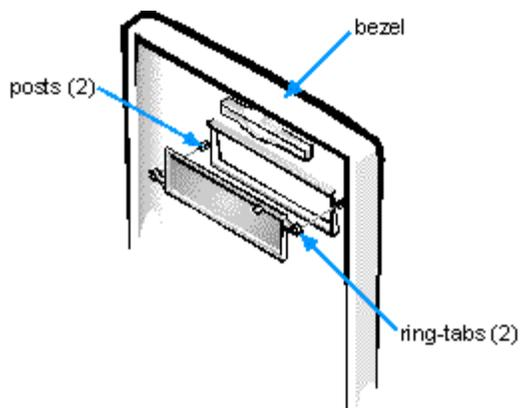

Figure 10-3. Removing the Front-Panel Insert for a 5.25-Inch Bay
4. With your thumbs, press in on each end of the insert until the insert snaps free of the bezel (see Figure 10-3).
To replace a front-panel insert for a 5.25-inch bay, work from inside the bezel. Insert the two ring-tabs (one on each end of the insert) over the posts on the inside of the bay opening, and firmly press both ends of the insert into place (see Figure 10-3).